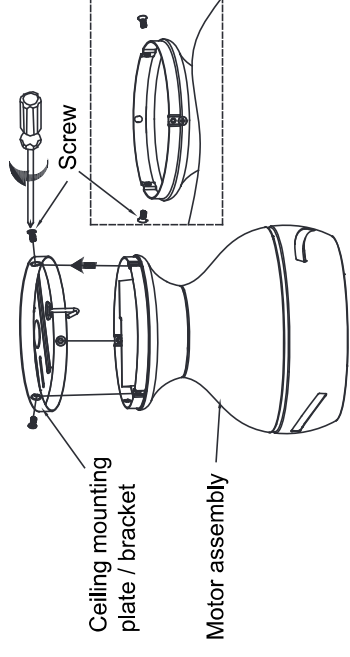

Fig. 11
Step 1. Remove the 3 small screws from the motor assembly for later use. Lift up the motor housing on to the ceiling mounting plate/bracket, aligning the 3 holes from both parts. Secure the motor housing to the motor bracket by using the 3 small screws removed previously (**Fig. 11**).